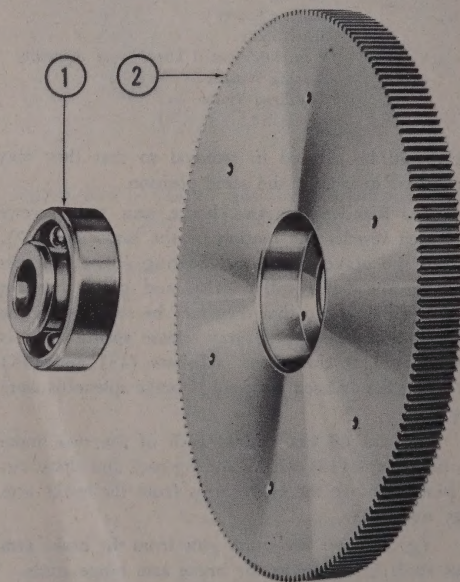

Figure 339 — Clutch Gear Assembly
(d) (See figure 339).—Disassemble the gear assemblies by removing the bearing (1) from the gear (2), using a small pin punch through the holes provided to drive on the outer race. As soon as the bearing is removed, place it in a covered container, properly marked, so that it may be reinstalled in the same location.
(a) Remove the clutch gear bearings (1, figure 339) from their covered containers, and insert in the gear assembly (2) from which they were removed. Slip each clutch gear assembly over its respective clutch disc shaft assembly. With the clutch engaged, check to see that the inner race of the clutch gear ball bearing protrudes about .012 inch above the shoulder on the clutch disc shaft. This inner race must protrude above the shoulder on the shaft so that the clutch thrust collar will contact only the inner bearing race, and clearance will be provided between the collar and the shoulder of the shaft. Any clearance less than .012 inch at this point will be due to wear on the clutch gear cork. If the cork is worn to a point where only a scant clearance is provided, the clutch gear and cork assembly should be replaced.